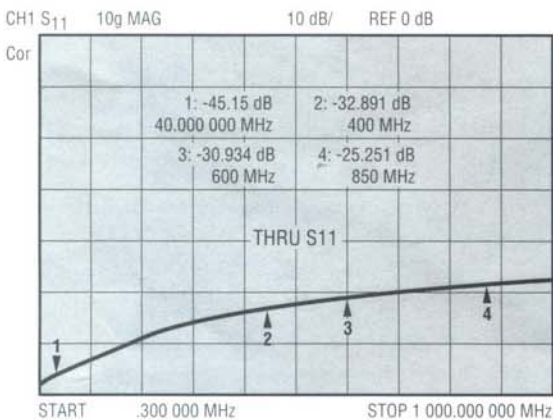
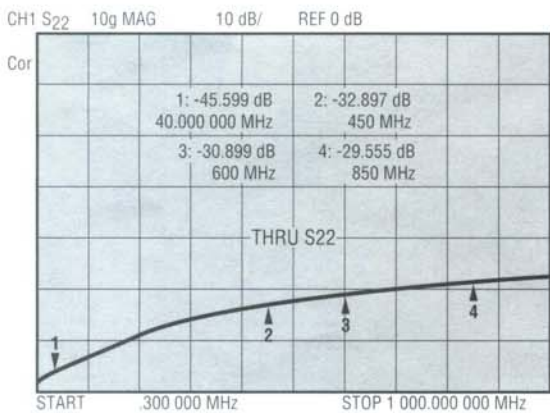

FIGURE 2 • RETURN LOSS
FIGURE 3 • RETURN LOSS
The first test to be performed was an evaluation of the Return Loss of the device. The unit was mounted into a test fixture with the signal being impressed onto the moving contact. The output is loaded to ground and the measurement is taken at the loaded fixed terminal. S11 on Fig. 2 represents one terminal; S22 on Fig. 3 represents the other. The vertical calibration is 10dB/cm. The far left side of the charts horizontal scale is 300 kHz; the right is 1 GHz. The baseline is at the midpoint vertically on the chart representing zero (0) dB. The frequency marks on the chart are identified in the text on the chart. The minimum return loss acceptable to the customer was 20 dB down in their operating range of between 400 and 600 MHz. You can see by the trace that even at 1 GHz, the switch exceeded minimum performance at approximately 28 dB down.